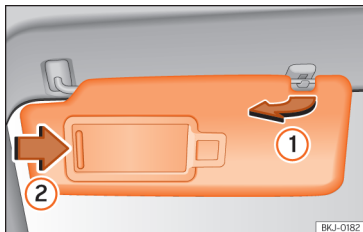

Fig. 77 Sun visor
- The sun visor can be pulled out of its mounting and turned towards the door >>> **Fig. 77** ①.